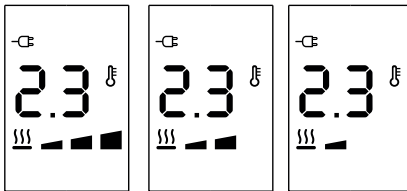

Fig. 2
Press button  (E) to set the required power level: MIN (); MED (); MAX () (see fig. 2). To select the desired temperature, press button + or - (C or D). By pushing the + or - button once, the temperature (shown on the display) will increase or decrease by 1°C. Keeping the + or - button depressed the value will increase or decrease rapidly.